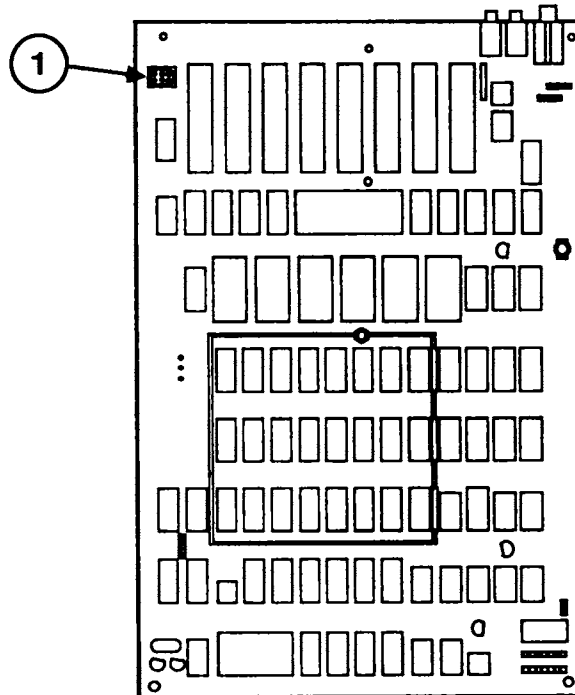

FIGURE 5
IPL.7	Super Serial Card (Figure 5)
2. Pinch the front and rear sides of the power supply connector (Figure 5, #1) and pull the connector from its mating socket.